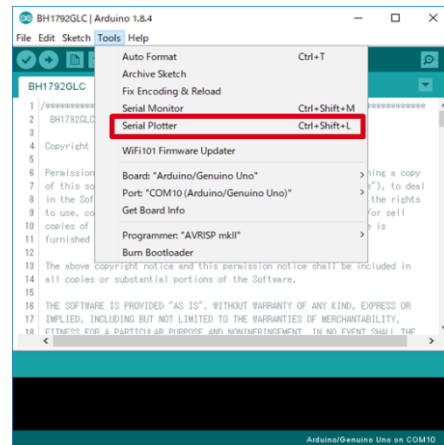

Figure 5. Tools Setting
4. Select [Tools]->[Serial Plotter] (Figure 5)